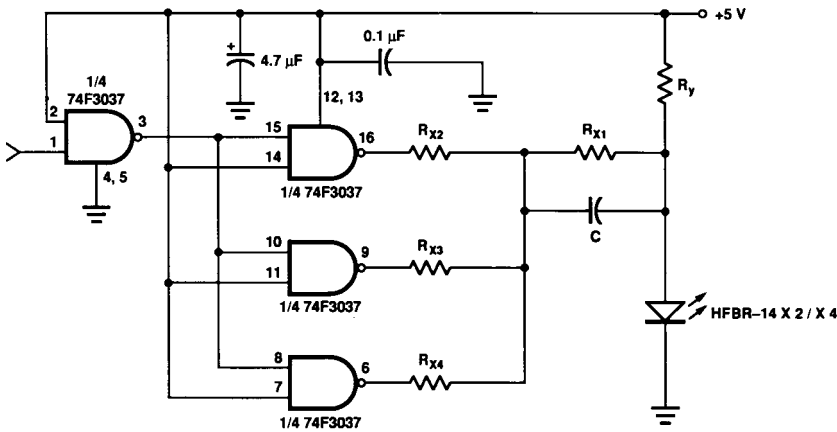

Figure 11. Recommended Drive Circuit.
- Pre-bias is recommended if signal rate  $> 10\text{ MBd}$ , see recommended drive circuit in Figure 11.
Figure 11 uses frequency compensation to reduce the typical rise/fall times of the LED and a small pre-bias voltage to minimize propagation delay differences that cause pulse-width distortion. The circuit will typically produce rise/fall times of 3 ns, and a total jitter including pulse-width distortion of less than 1 ns. This circuit is recommended for applications requiring low edge jitter